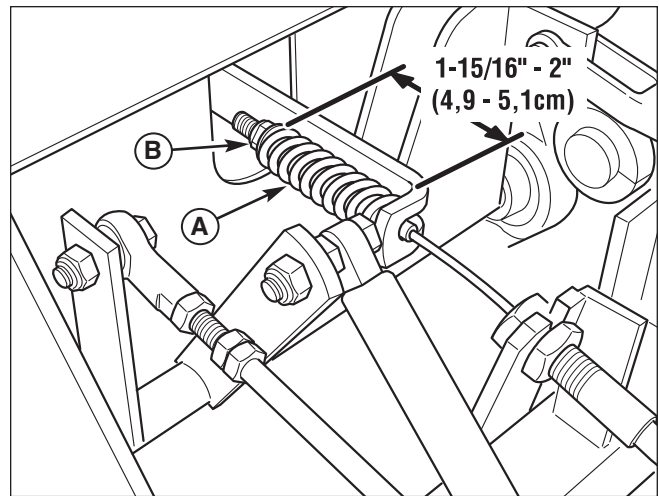

Figure 28. Parking Brake Adjustment
3. Locate the brake spring (A, Figure 28).
5. If the spring is not within this range, release the parking brake and turn the adjustment nut (B) to compress or release the spring.